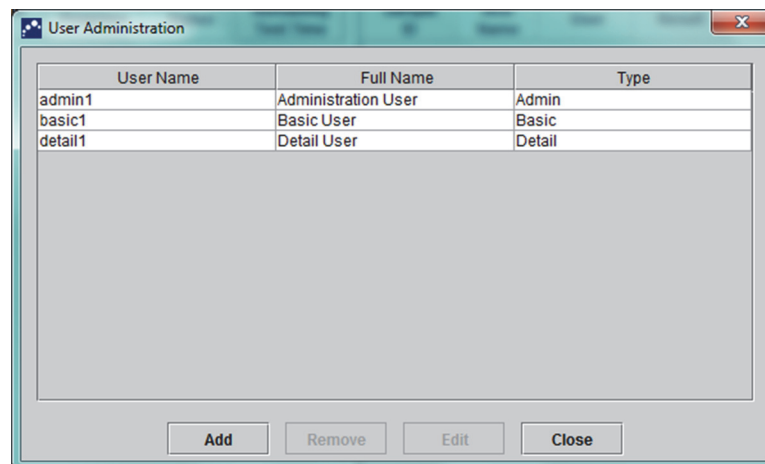

Figure 2-36. User Administration Dialog Box
1. In the GeneXpert Dx System window (see Figure 2-27), on the **Setup** menu, click **User Administration**. The User Administration dialog box appears. See Figure 2-36.